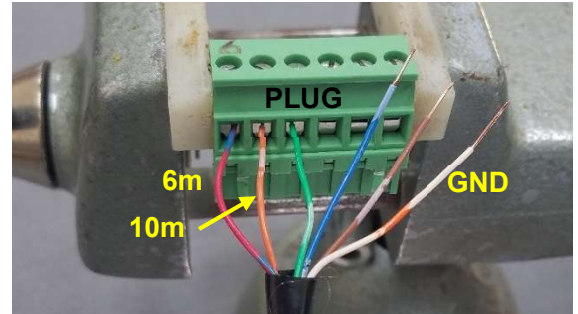
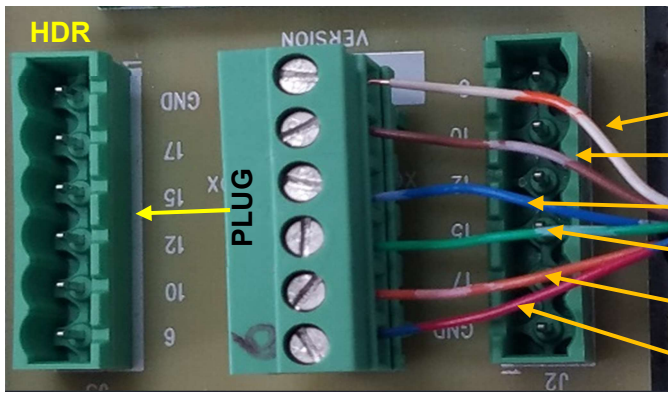

FIGURE 104
FIGURE 106
1. In next steps, bare wires are inserted into plug ports, as shown in **FIG. 104**.
2. It is recommended that the plug be held by a clamping device during wiring, as also shown in **FIG. 104**.
3. Then dip each of the end bare copper wires into the connector protector (1704) supplied (**FIG. 103**), before inserting bare wire into the connector plug ports of **FIG. 104**.
7. See **BAND WIRE COLOR CHART (FIG. 106)** for wire color corresponding to plug position.
□ **STEP 9.15** Study "Overview" and **FIGs 104, 105 and 106**, before wiring of 6-position plugs. Note that each wire has a dominant color, with a strip or "/" of a 2nd color, defining the BAND control wire color. These BAND control wire colors are defined by the **BAND WIRE COLOR CHART**, associated with **FIG. 106**.
□ **STEP 9.16** Select the 6m wire (**RED/BLUE**) (dominant RED), and dip bare wire into the connector protector. Insert bare wire into OPEN wire port for marked 6m position. Using small flat blade screw driver, turn screw clockwise to clamp down on the bare 6m wire, with results as shown in **FIGs 104, 105, and 106**. Be sure port clamp is on bare wire and NOT on the insulation. Pull on wire to insure it is clamped securely.
Vise holding plug during wiring per **Band Wire Color Chart [FIG. 106]**.
□ **STEP 9.17** Repeat **STEP 9.16** for the 10m position and BAND color (**ORANGE/WHITE**), as shown in **FIGs 104, 105, and 106**.
□ **STEP 9.18** Repeat **STEP 9.16** for 12m, 15m, 17m and GND positions, using the **BAND COLOR WIRE CHART** and as shown in **FIGs 104, 105 and 106**.
STEP 10.5 Review the **Wiring Plug Overview**, associated with **FIG. 104**.